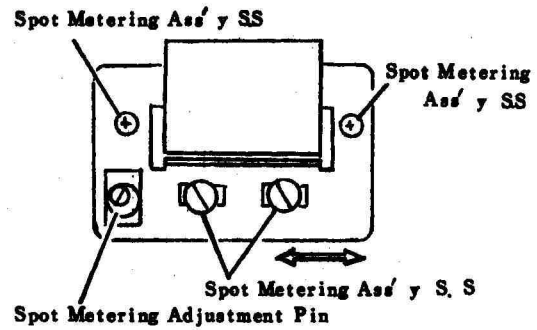

Fig. 187
- ① Affix a spot check chart (Chart B) in the standing position on the F. parallax chart on the wall. (Position the chart correctly.)
- ② Mount a lens (Planar 50/F1.4) on the camera.
- ③ Remove the Tripod Screw Base Ass'y from the camera and install a tripod fixture instead.
- ④ Lock the tripod fixture on the tripod so that the camera is installed upside down.
- ⑤ Adjust the focus of the lens and then adjust the optical axis of the camera to the center of the chart.
- ⑥ Loosen the four Spot Metering Base Setscrews, turn the Spot Metering Adjustment Pin, perform half release in spot and AE mode and lock the Spot Metering Base where the shutter speed is highest. (Tighten the four screws and lock them with Screw-Lock. (See Fig. 187))